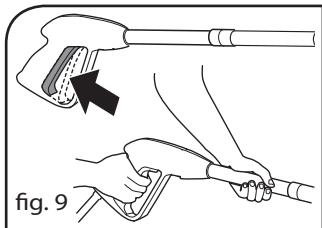

fig. 9
- Trigger the gun to eliminate trapped air, wait for a steady flow of water to emerge from the spray nozzle (fig. 9).